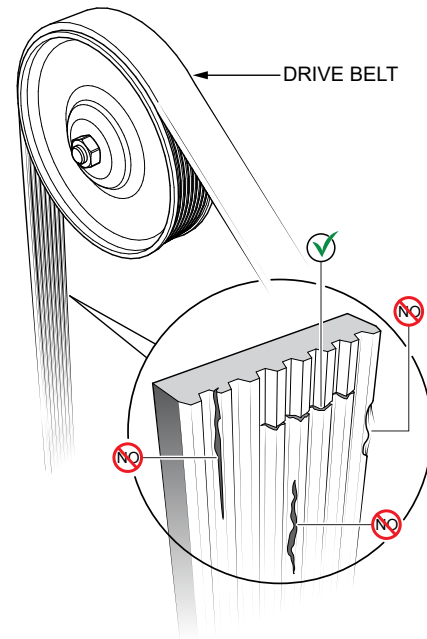

Figure 79. Drive Belt Inspection
1. Inspect the **drive belt** (Figure 79) for damage and wear. Horizontal cracks (across the belt) are acceptable. Vertical cracks (direction of belt ribs) that intersect with horizontal cracks are not acceptable.